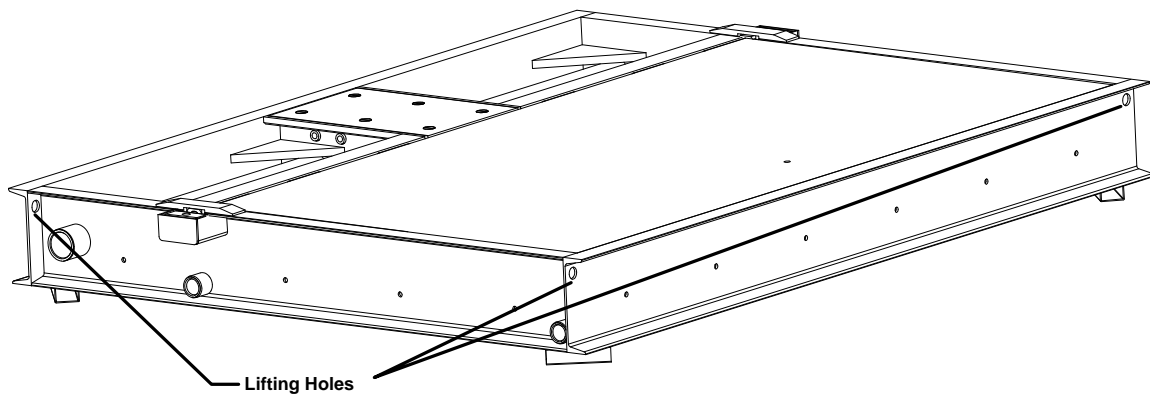

Figure 4 Barrier Lifting Holes
1. Position barrier using cinder blocks or similar product to ensure all four corners of the barrier are co-planar within 1/8". Shim if necessary. It is critical to the operational performance of the barrier that the base support frame is not twisted. Four lifting holes are supplied near the corners of the barrier for lifting and positioning use (see figure 4).